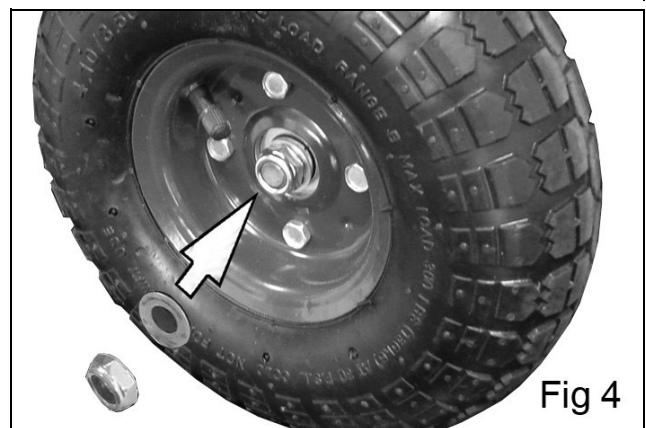

Fig 2
2. Turn the trolley bed on its back and attach the sub-assembly to the bed using the bolts, flat washers and lock-nuts supplied as shown in Fig 2.